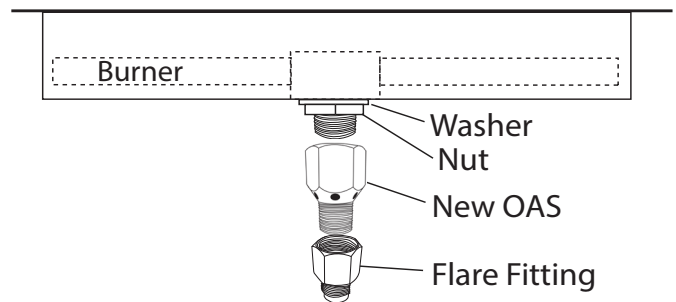

Fig. 2 Installing new OAS
11. Install the 1/2" NPT Female to Male flared to the new OAS-LP (See Fig. 2).